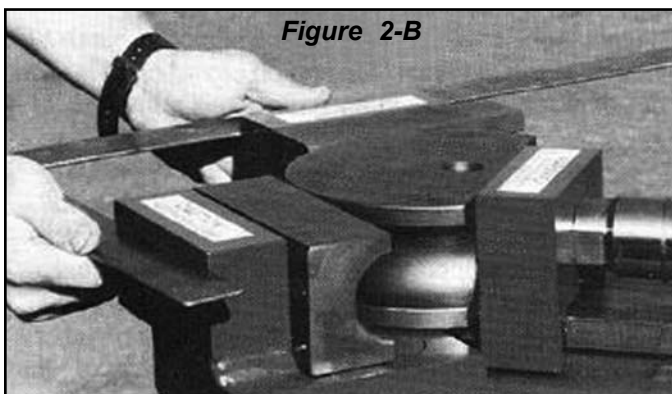

Figure 2-B
3. Using a carpenter's square, advance the radius die until the back gates are at a true 90 degrees, contacting the inside of the square evenly across the front of the gates. (See figure 2-B)
4. Check the depth-of-bend plate and adjust the pointer so that it reads 90 degrees at this time. (See figure 2-C)